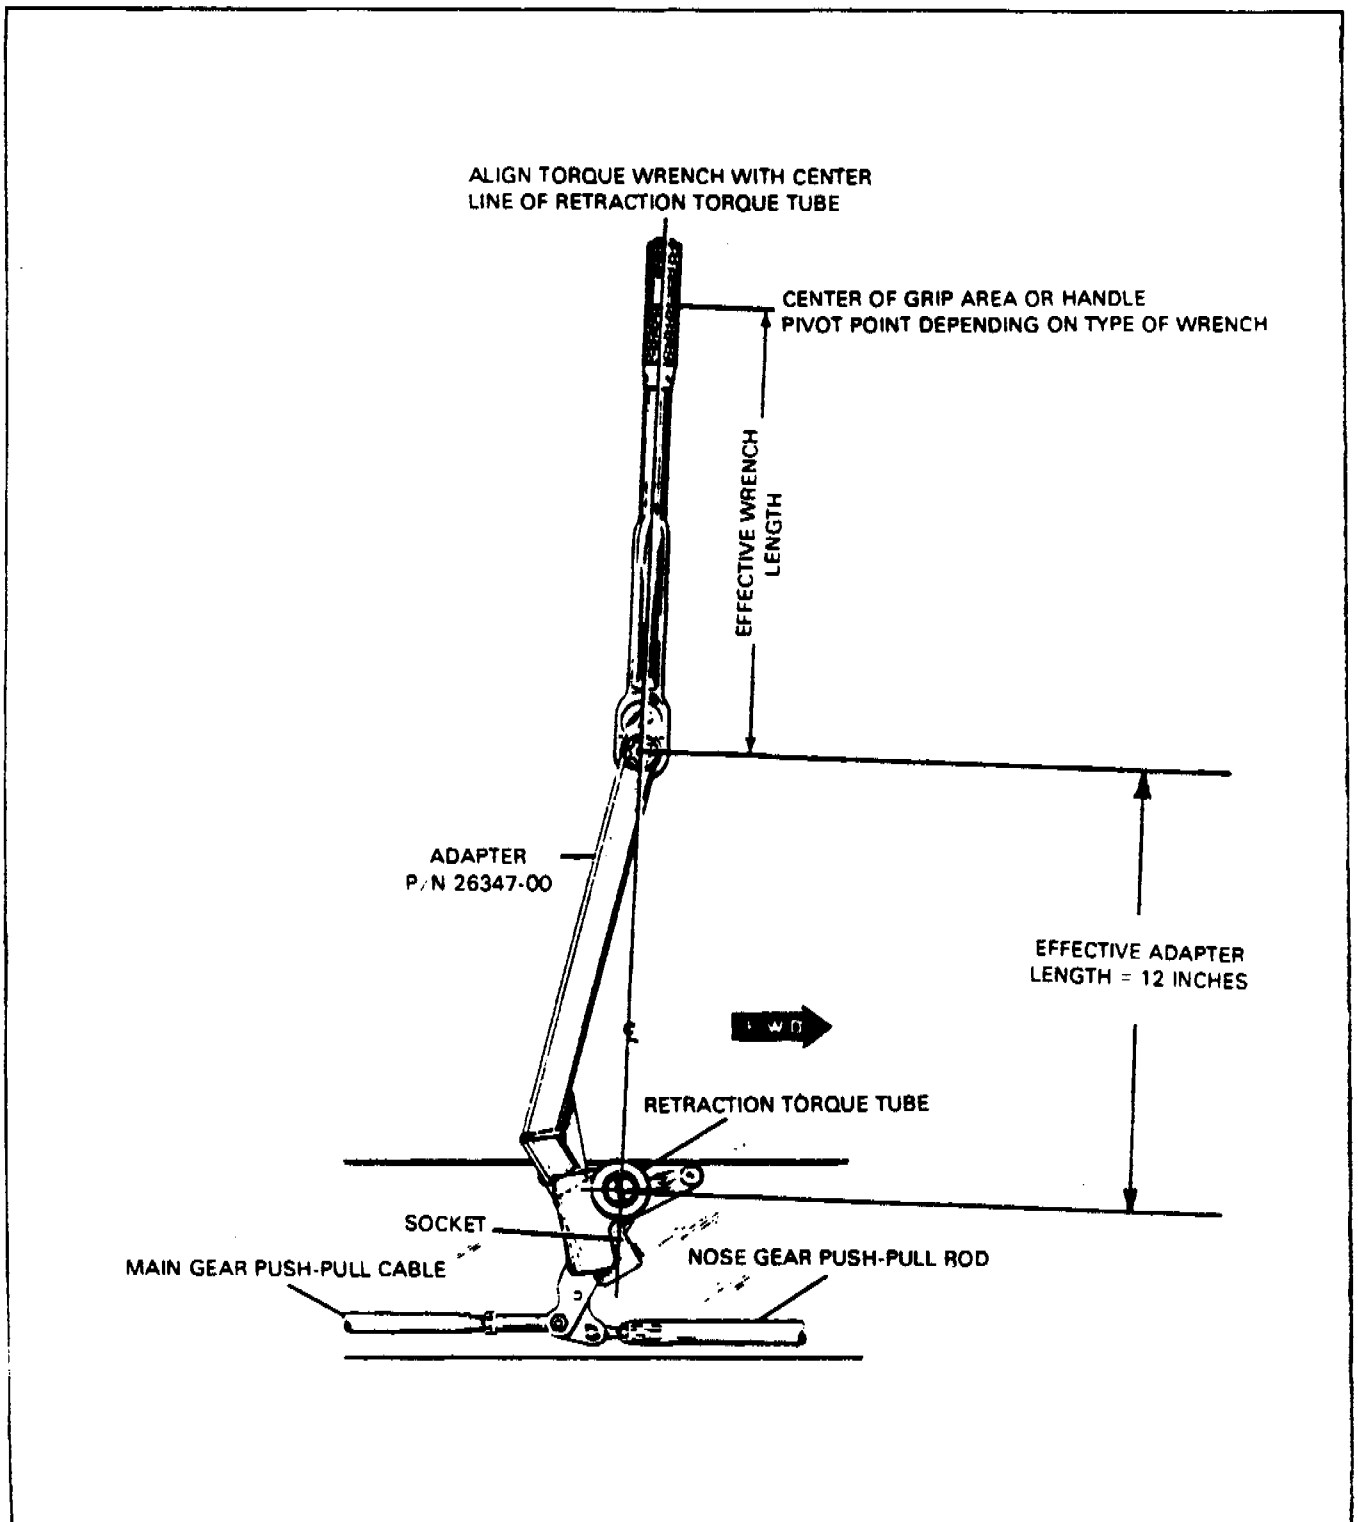

Figure 6-20. Torque Wrench and Adapter Installation
- e. On airplanes with Serial Nos. 24-4783 and 24-4804 and up, remove retraction transmission floor plate and install adapter tool, P/N 26347, in the left socket of the retraction torque tube. (Refer to Figure 6-20.)